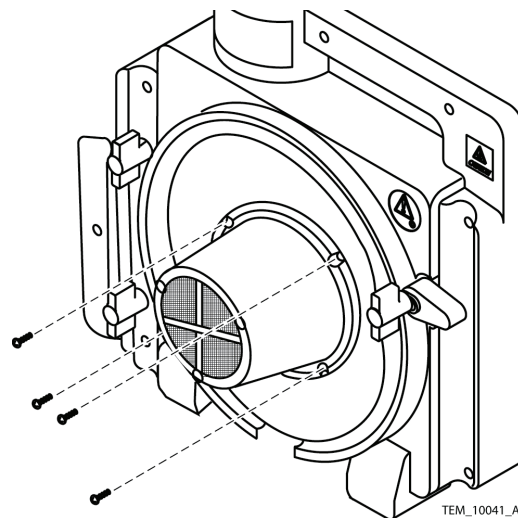

Figure 70. Blower Assembly Screws
22. Remove the screws holding the blower assembly to the rear cover assembly. See Figure 70.